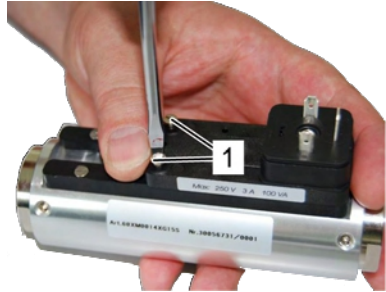

Fig. 59: Loosen set screws
3. ➤ Using a flat-bladed screwdriver, loosen the set screws (Fig. 59/1) of the switch contact until it moves freely
11. ➤ Re-tighten the set screws (Fig. 59 observing the proper tightening torque of the screws)